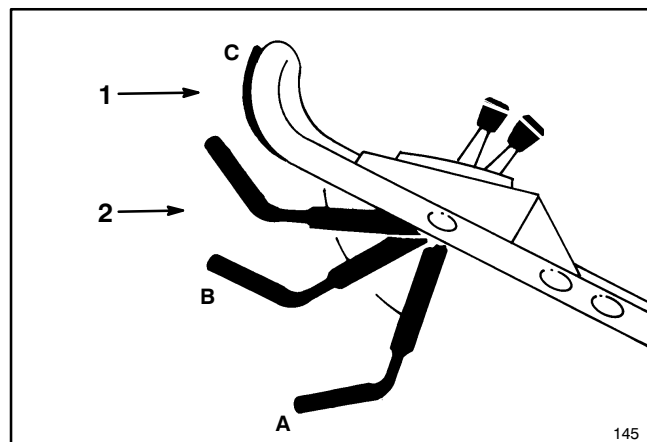

Figure 11
7. **BLADE AND TRACTION OPERATION** (Fig. 11)—Move control bar down to “A” and raise to “B” to engage blade. Squeeze control bar against handle “C” to drive. To disengage traction drive but keep blade engaged, gradually release control bar to mid position. To self-propel with blade disengaged, simply squeeze control bar against handle, eliminating downward movement necessary for blade engagement.
8. STOPPING (Fig. 11)—Release control bar to stop blade and traction drive. Move ground speed control to "N". To stop engine, move throttle to  (OFF). Pull wire off spark plug if mower will be unattended or not used.